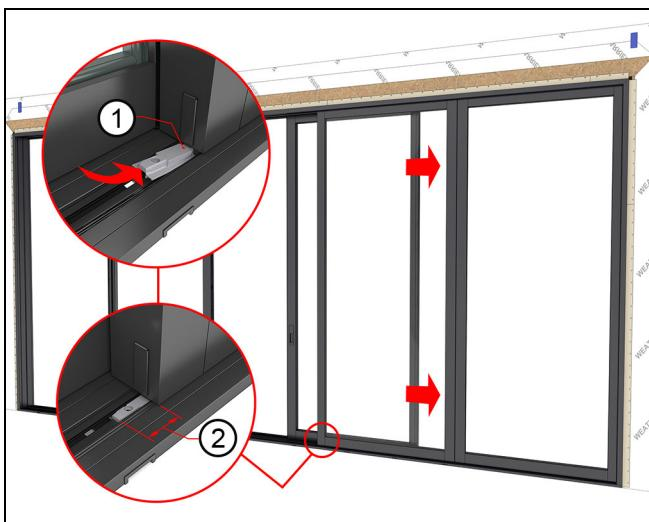

Figure 138
10. Snap the lower stationary bracket onto sill, then slide underneath the (C) stationary panel until fully seated. The bracket should stick out approximately $2\frac{1}{4}$ " (57) from panel when fully seated. Do not fasten the bracket until all the panels are installed and adjusted. See Figure 138.